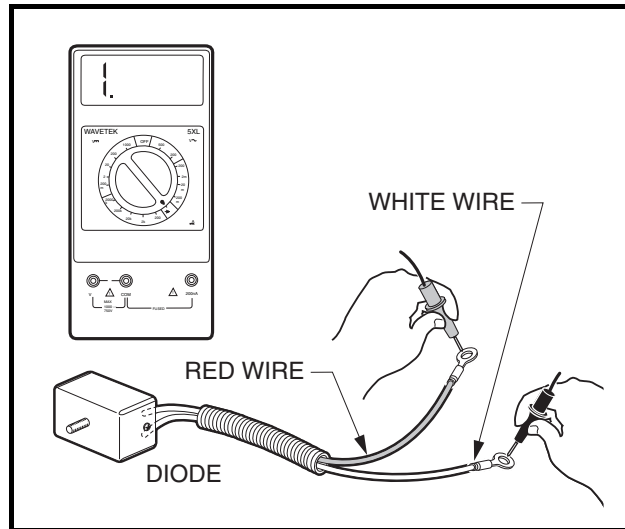

Figure 11-18 Diode Test
- 3.3. Remove the locknuts (7) from the two large solenoid posts and disconnect the diode wires from the solenoid.
4. With the multimeter set to the diode test function ($\rightarrow\leftarrow$), connect the black (–) probe of the multimeter to the white lead of the diode and the red (+) probe of the multimeter to the red lead of the diode (**Figure 11-18, Page 11-20**). The reading should indicate an overload (no continuity). A diode is designed to conduct current in one direction only. If a diode conducts current (shows continuity) with the meter probes as described, the diode has failed and must be replaced. **See Diode Removal, Section 12, Page 12-12.**